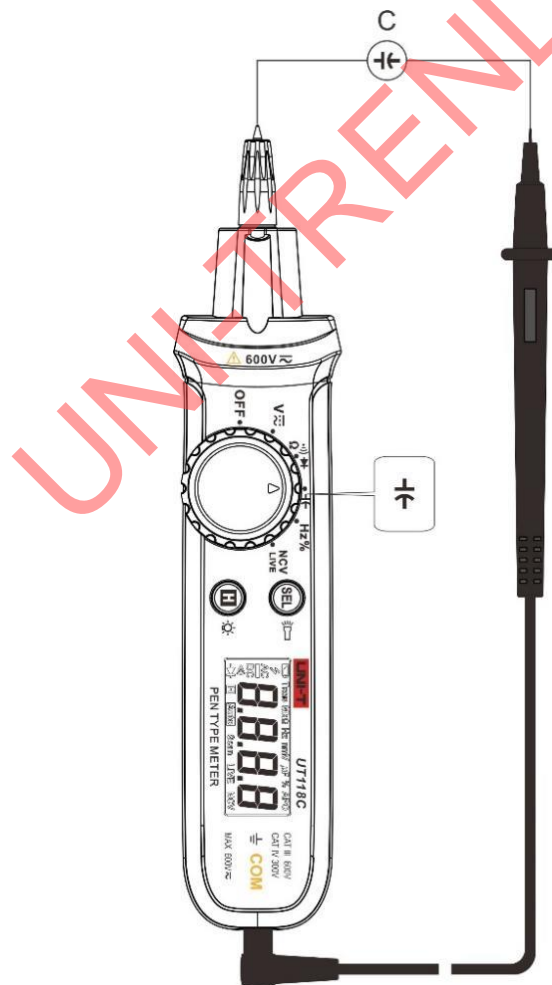

Figure 5
11.3 Measure Capacitance (Figure 5)